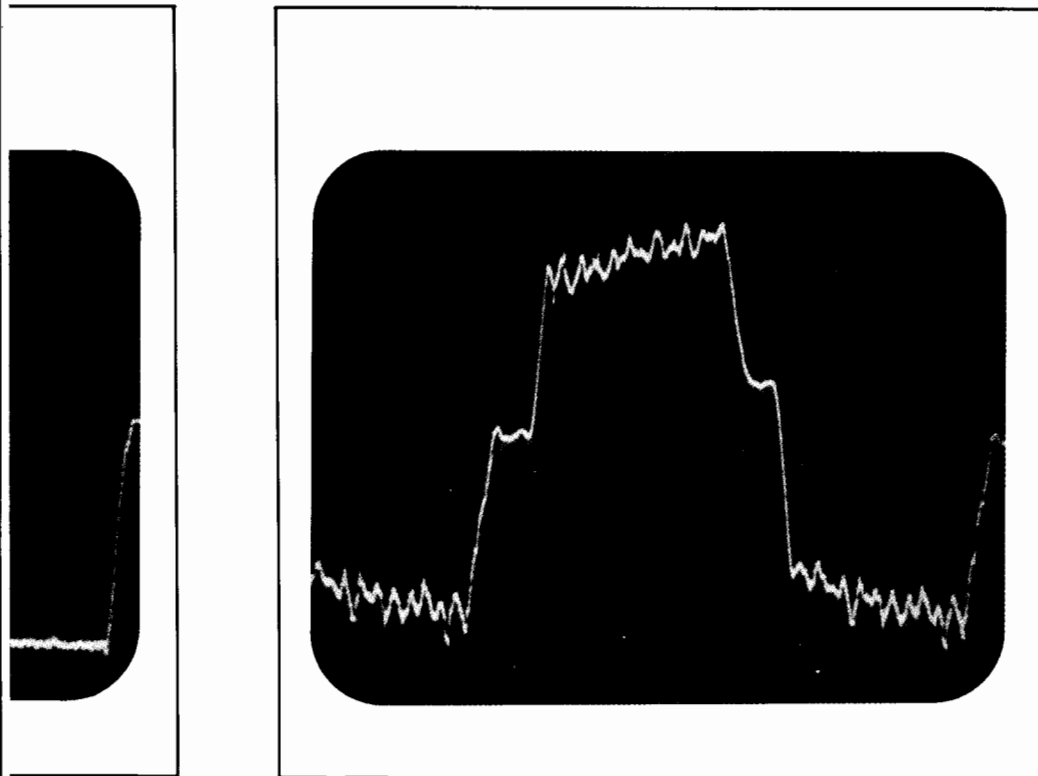

Figure 30. XOF and YOF Adjustment
4. Adjust XOF such that the error signal is symmetrical about the zero line on the oscilloscope. (See Figure 30.)
4. Adjust YOF such that the error signal is symmetrical about the zero line on the oscilloscope (Figure 30).